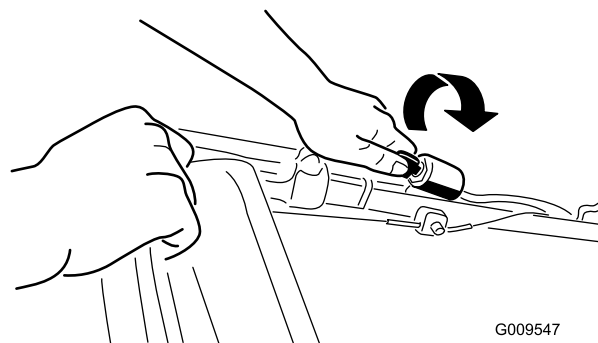
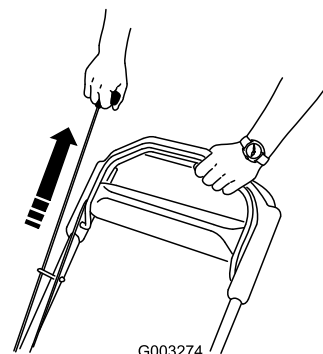

Figure 14
Figure 15
2. Turn the ignition key (Figure 14) or pull the recoil-start handle (Figure 15).
Note: When you pull the recoil-start handle, pull it lightly until you feel resistance, then pull it sharply (Figure 15). Allow the rope to return to the handle slowly.